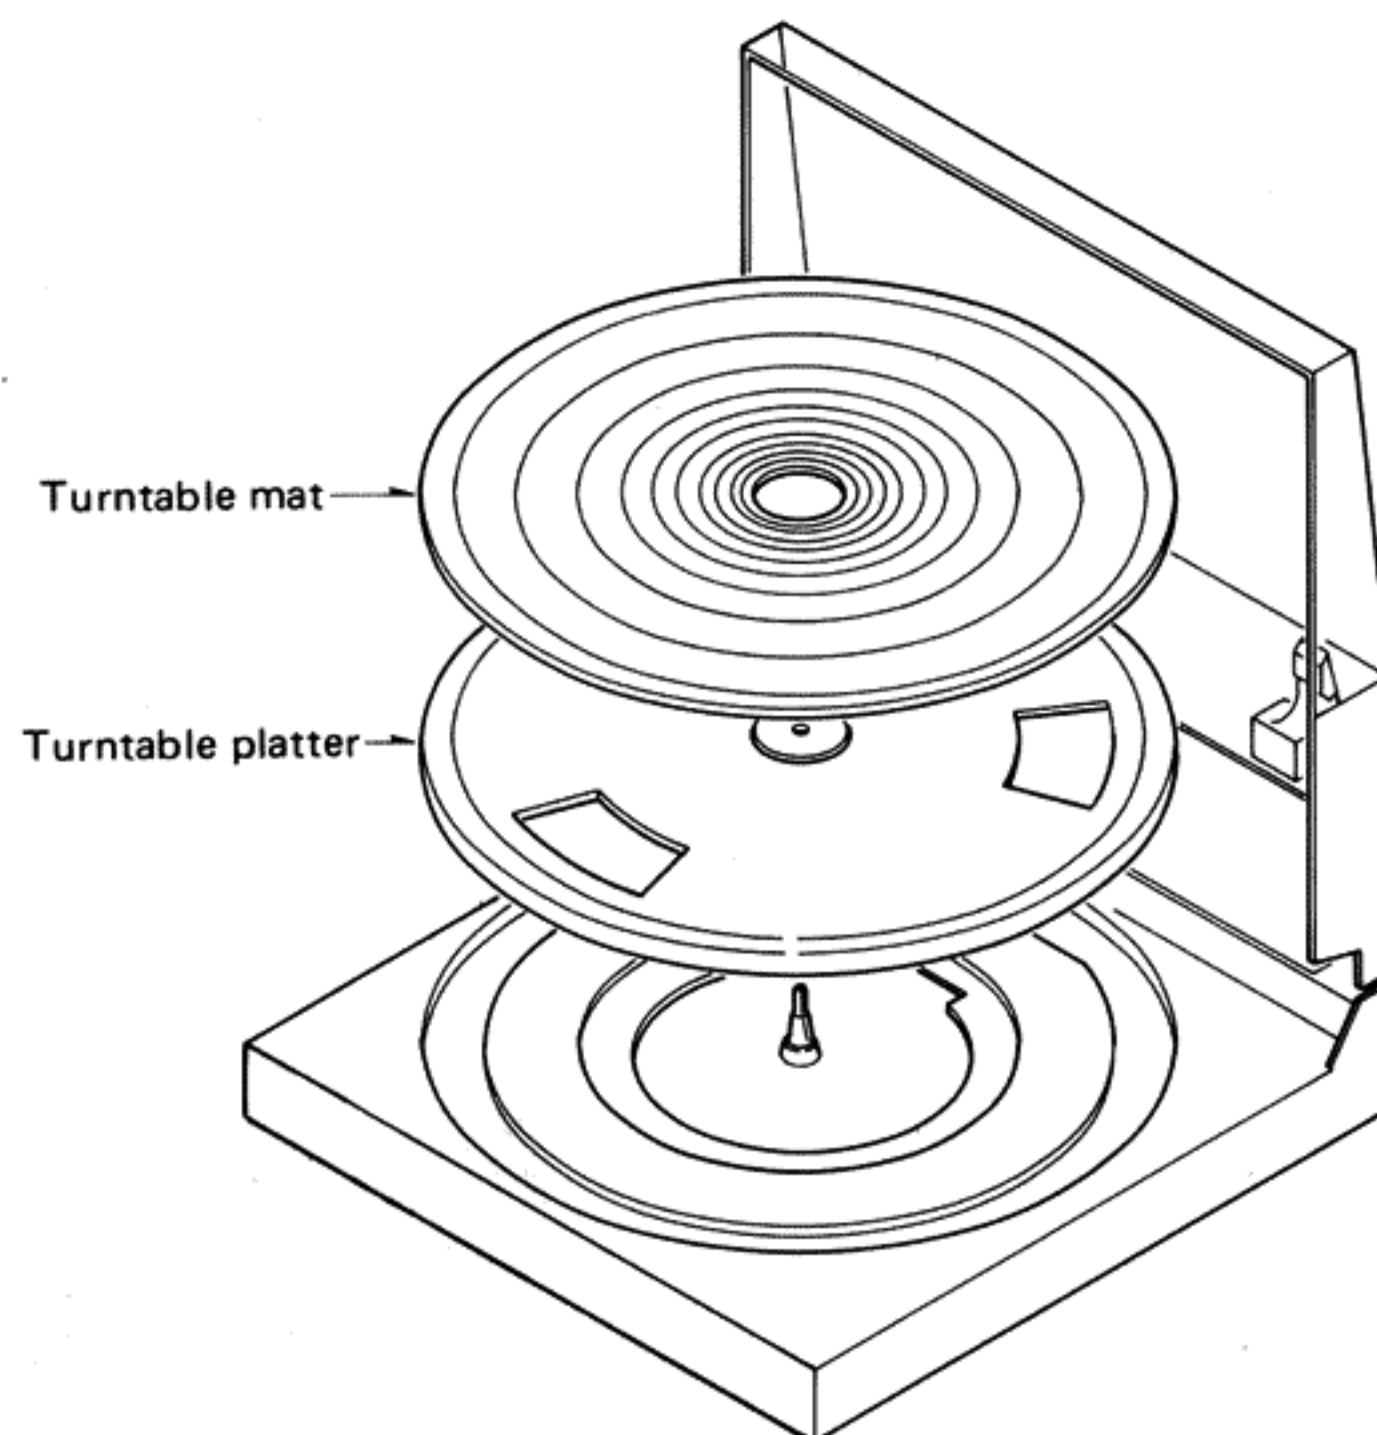

Fig. 2
2. Remove the turntable mat, and lift the turntable platter. (Fig. 2)